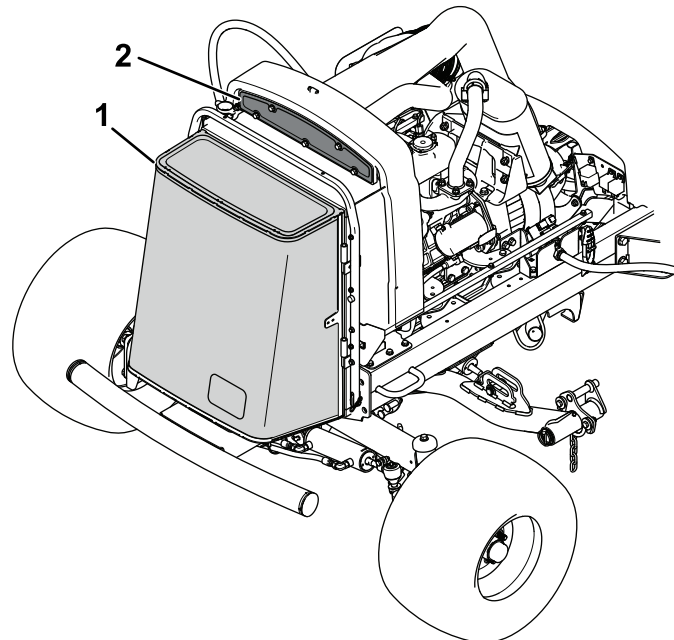

Figure 3
The scalping process creates a lot of dust and chaff, so it is important for the reels to process and quickly get the dust and chaff out of the cutting unit. It is critical to keep the rear radiator screen and the air cleaner and generator air inlet screen (Figure 3) cleaned.
- Frequently check the rear radiator screen and the air cleaner and generator air inlet screen (Figure 3) above the radiator for chaff build up.
Scalping and verticutting are dirty jobs that create a lot of chaff, dust, and debris. It is critical to keep the rear radiator screen and the air cleaner and generator air inlet screen (Figure 3) cleaned and free from chaff build up. If the air is restricted to the air cleaner, the engine runs richer and creates more heat, which allows heat to build up under the hood and heat soak the engine and generator. Both the engine and generator need unobstructed air flow to keep cool.